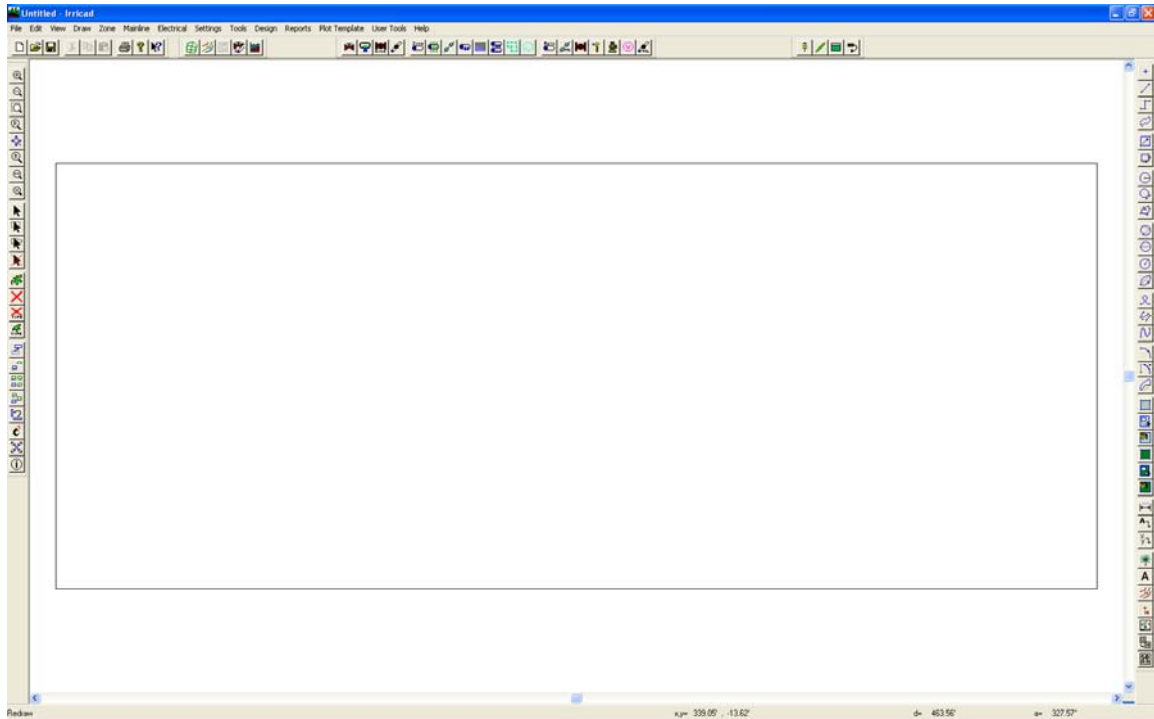

Figure SM 2
5. Select *Draw|Rectangle|2 Point* and move the cursor to the bottom left of the screen and click the left mouse button to start the rectangle. You will notice that the status bar will ask you to enter the corner point of the rectangle prior to you clicking the mouse and for you to enter the opposite corner after you have placed the first. Draw the cursor away from the first point and left-click to place the second point. Now select *Tools|Change* (or click on the Chameleon  on the left-hand tool bar) and click on the border of the rectangle. Edit the "Width" to be **390 (120)** and the "Height" to be **150 (45)**. Click **[OK]**. Select *View|Zoom All*.
6. Your design should look like Figure SM 2.